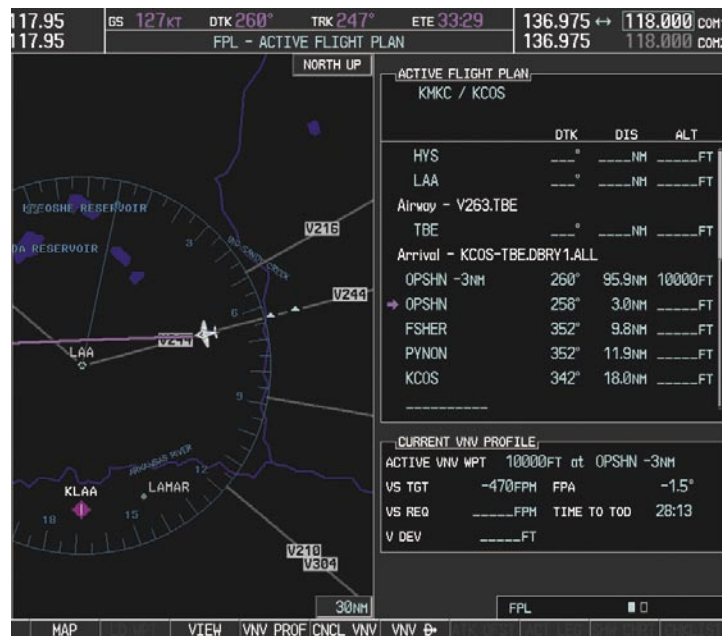

Figure 5-119 Direct-to Active
- h) Press the **ENT** Key twice to activate the direct-to. Note, in Figure 5-119, the magenta arrow indicating the direct-to OPSHN after the offset waypoint for OPSHN. The preceding offset waypoint indicates the offset distance and altitude that were previously entered. The remaining waypoints in the loaded arrival procedure have no database specified altitudes, therefore, dashes are displayed. Keep the CDI centered and maintain a track along the magenta line to OPSHN.